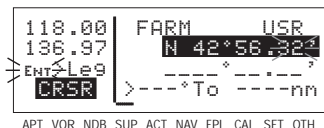

Figure 4-85
- Use the right outer knob to move the cursor, and the right inner knob to select the proper numbers to complete the latitude entry (figure 4-85).